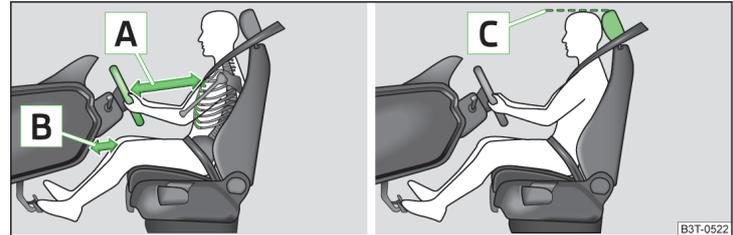

Fig. 1 Correct driver seating position / properly adjusted headrest
- ✓ For vehicles with driver knee air bag adjust the driver's seat in a forward/back direction so that there is a gap of at least 10 cm between the legs and the dash panel in the vicinity of the knee airbag - **B** » Fig. 1.
- ✓ Adjust the steering wheel so that the distance **A** between the steering wheel and your chest is at least 25 cm » Fig. 1. Adjust the steering wheel » page 10, *Adjusting the steering wheel position.*
- ✓ Adjust the head restraint so that the highest point of the head restraint is at the same level as the upper part of your head **C** » Fig. 1.
- ✓ Adjust the head restraint so that the top edge of the head restraint is at the same level as the upper part of your head ☐ » Fig. 1 on page 9.
- ✓ Adjust the head restraint so that the top edge of the head restraint is at the same level as the upper part of the head  » Fig. 1 on page 9.